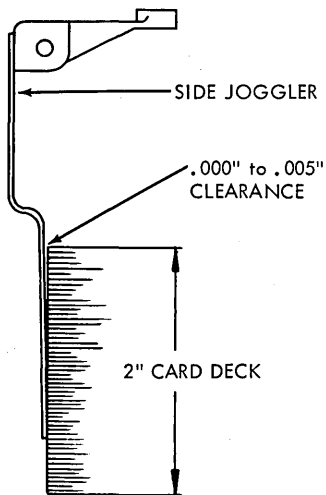

Figure 2-10A. Side Jogger Adjustments
1. With a two inch column of cards in the hopper, turn the file feed drive until the hopper joggler cam follower is on the high dwell of the cam. Set the adjusting screw for .000" to .005" clearance between the top of the deck and the joggler arm (Figure 2-10A). NOTE: There is no timing relationship between the side and front joggler cams, nor between the cams and the feed knives. The front joggler cams should however, be even with each other.